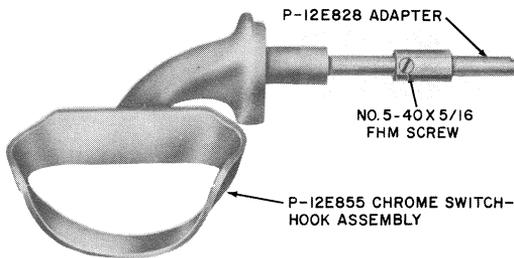

Fig. 24—Two-Piece Switchhook
- (1) Perform operations outlined in 2.32 (1).
(2) Loosen the flathead screw which secures P-12E828 adapter (Fig. 24) to the switchhook shaft.
(3) Slide switchhooks to left and out of bearing.
(4) Slide adapter to left and out of bearing.